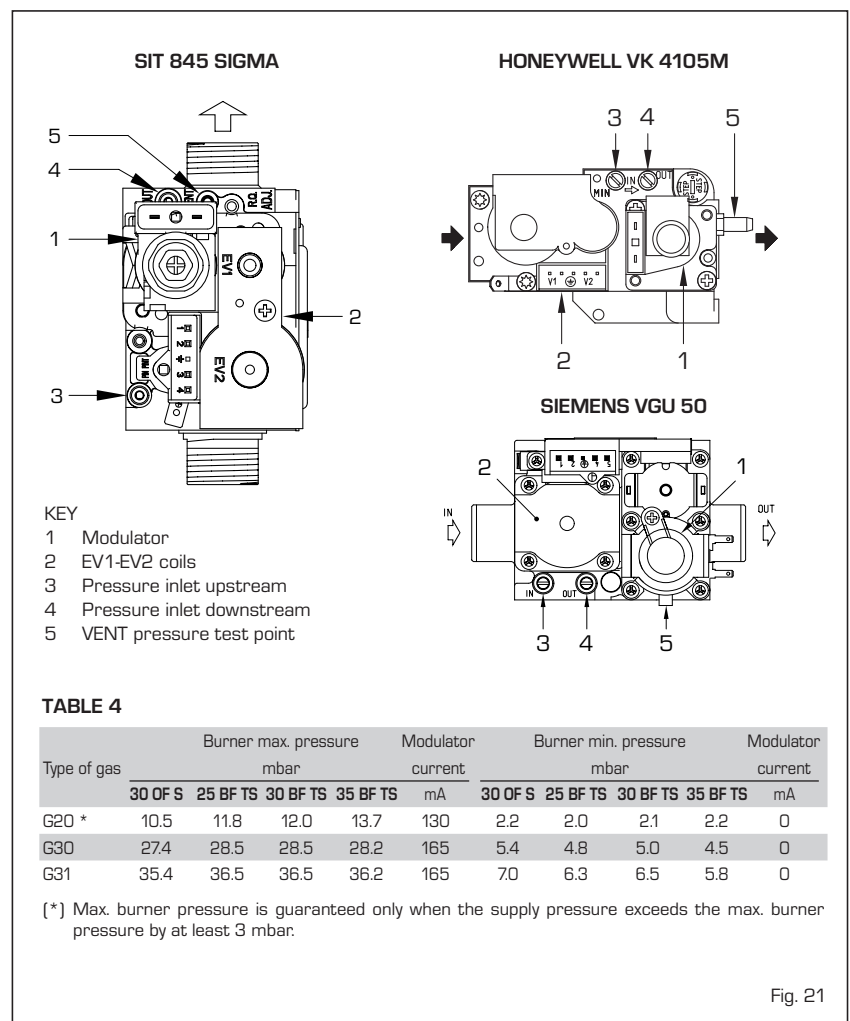

Fig. 21
The boilers are equipped standard with the SIT 845 SIGMA/HONEYWELL VK 4105M/SIEMENS VGU 50 gas valve (fig. 21).
- In "BF TS" models, disconnect the valve VENT pressure test point tube (5 fig. 21).**
- Remove the cap (1) from the modulator.